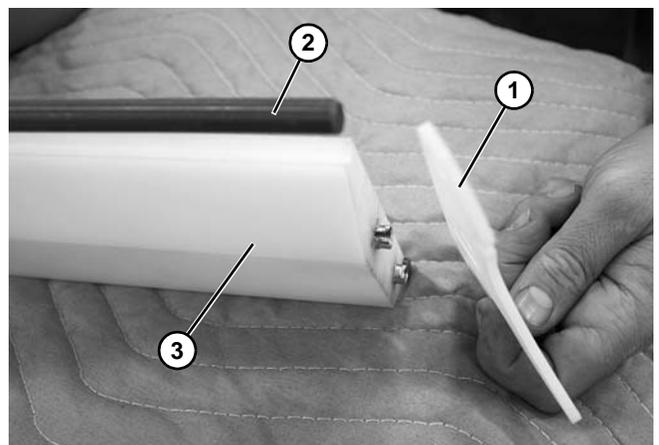

Figure 62
10. Disassemble side guide plates (**Figure 62, item 1**), wear rods (**Figure 62, item 2**), and wear bar (**Figure 62, item 3**). Replace worn parts.